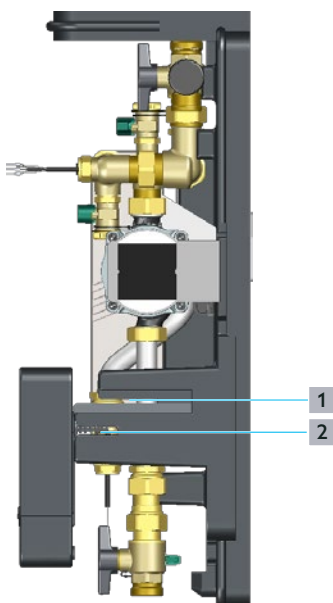

Fig. 7: Installation position
- 2 Turn the controller and fix it in the installation position as shown in Fig. 7 on page 9.